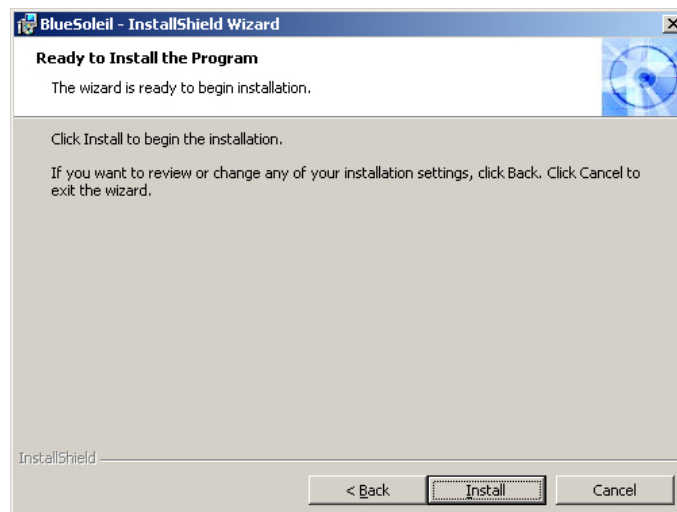

Figure 7-51: Ready to Install the Program
Step 15: Click **NEXT** and the InstallShield Wizard is ready to install the program (Figure 7-51).